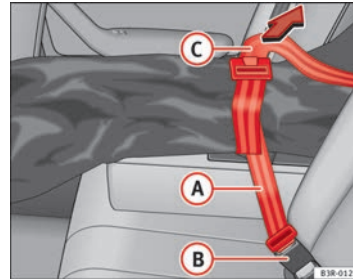

Fig. 127 Fastening the ski bag in the seatbelt buckle
- Insert the fastening belt (A) ⇒ Fig. 127 of the ski bag into the centre seat belt buckle (B).
- Pull the free end of belt (C) to tighten.